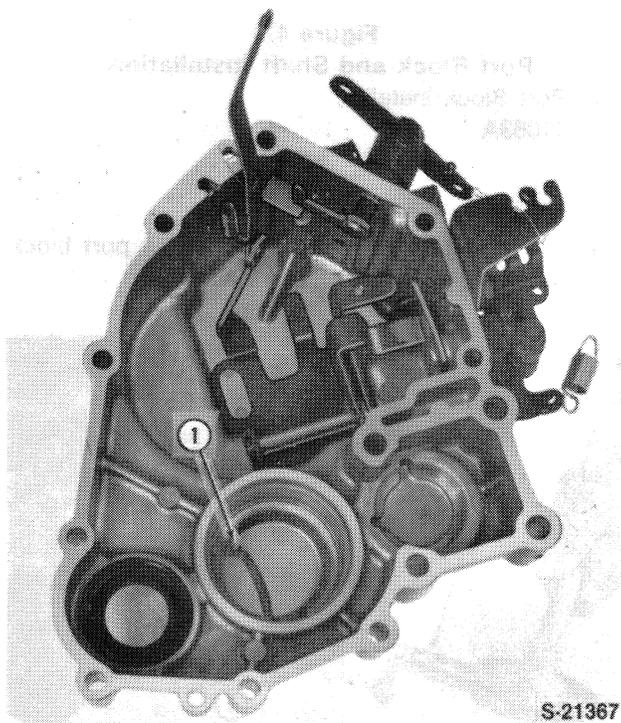

Figure 49
NOTE: On installation of the timing gear cover, be sure to align the oil pump cover pin hole with the roll pin (1), Figure 49 in the timing gear cover.